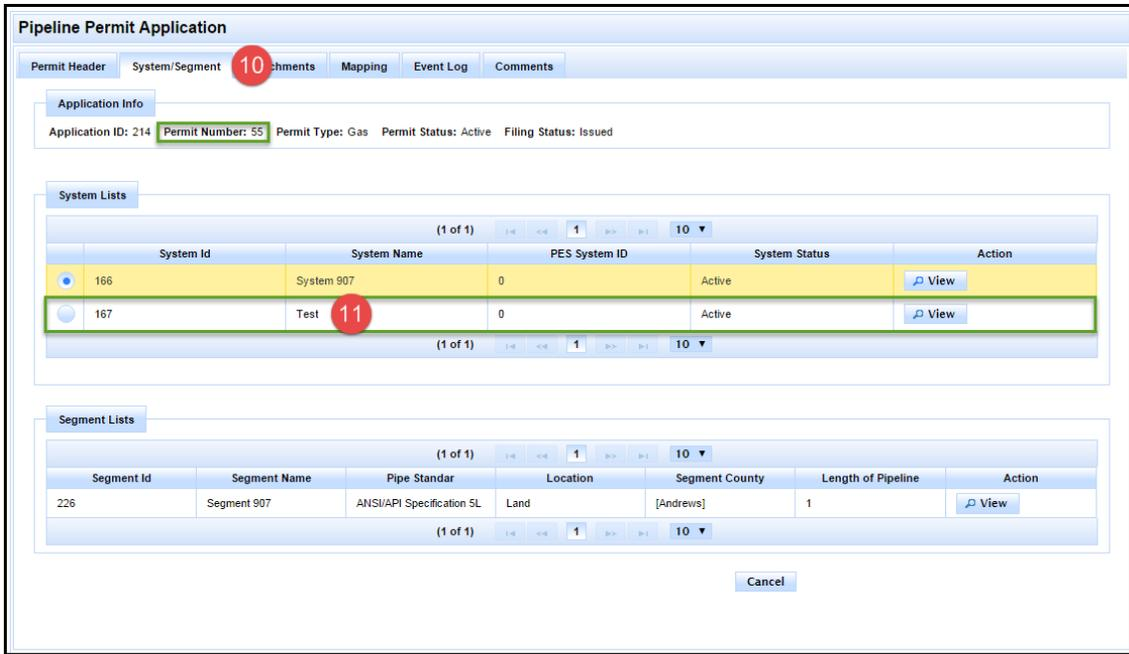

Figure 65: Transfer a System, Steps 10 and 11
10. Click the **System/Segment** tab, shown in Figure 65.